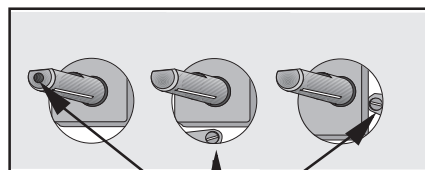

Fig. 2
- With a thin screwdriver, adjust the by-pass screw (Fig.2).